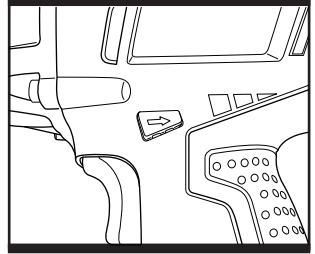

Fig. 3
1. ON/OFF SWITCH & VARIABLE SPEED CONTROL (Fig. 3)
2. FORWARD/REVERSE SWITCH & SWITCH LOCK (Fig. 3)